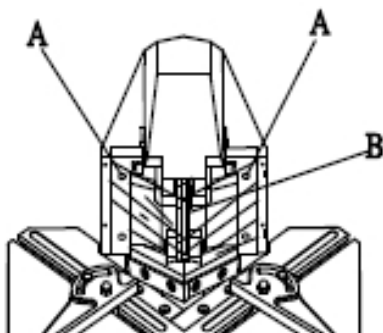

Fig. 21: Lubricating points
Step 1: Fill oil lubrication holes (Pos. A, Fig. 21) and lubricate connector (Pos. B, Fig. 21). Do this daily to ensure smooth running of the machine.